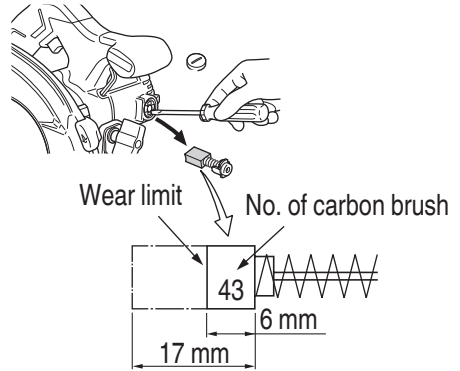

Fig. 15
3. Inspecting the carbon brushes (**Fig. 15**)